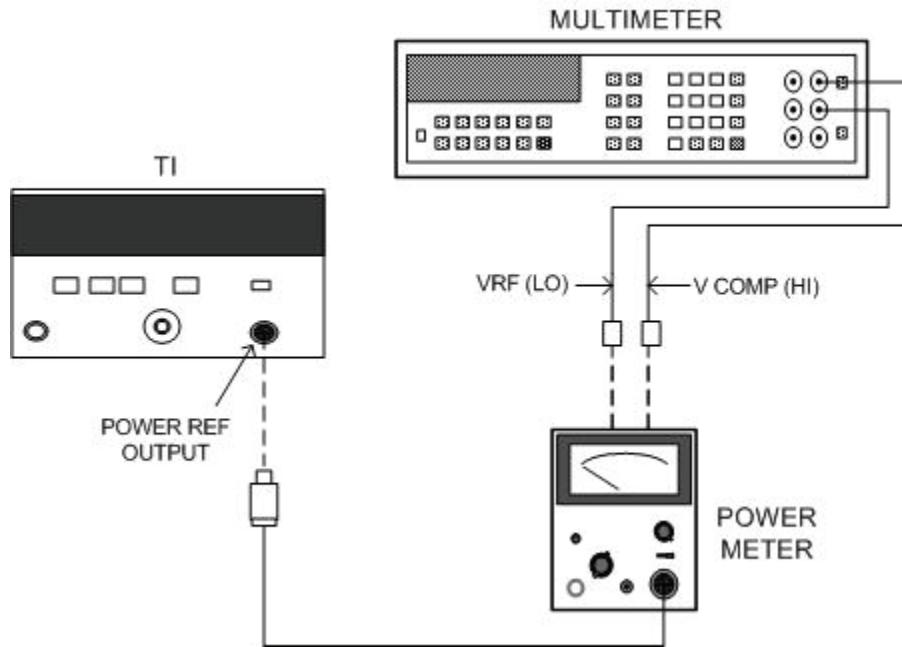

Figure 6. Power reference level - equipment setup.
(1) With power meter off, remove thermistor mount from interconnect cable. Adjust multimeter to measure resistance and connect between VRF connector on rear panel of power meter and pin 1 on thermistor mount end of power meter interconnect cable.
(2) Round off multimeter indication two decimal places and record this value as internal bridge resistance R of power meter (approximately 200 Ω).
(3) Reconnect thermistor mount to power meter interconnect cable and connect equipment as shown in figure 6.
(4) Press TI LINE pushbutton to ON and POWER REF pushbutton to off. Set power meter switch to on and wait 30 minutes for thermistor mount to stabilize before proceeding.
(5) Set power meter RANGE switch to COARSE ZERO and adjust front panel COARSE ZERO control for a zero meter indication.
(6) Zero power meter on the most sensitive range, then set power meter RANGE switch to 1 mW